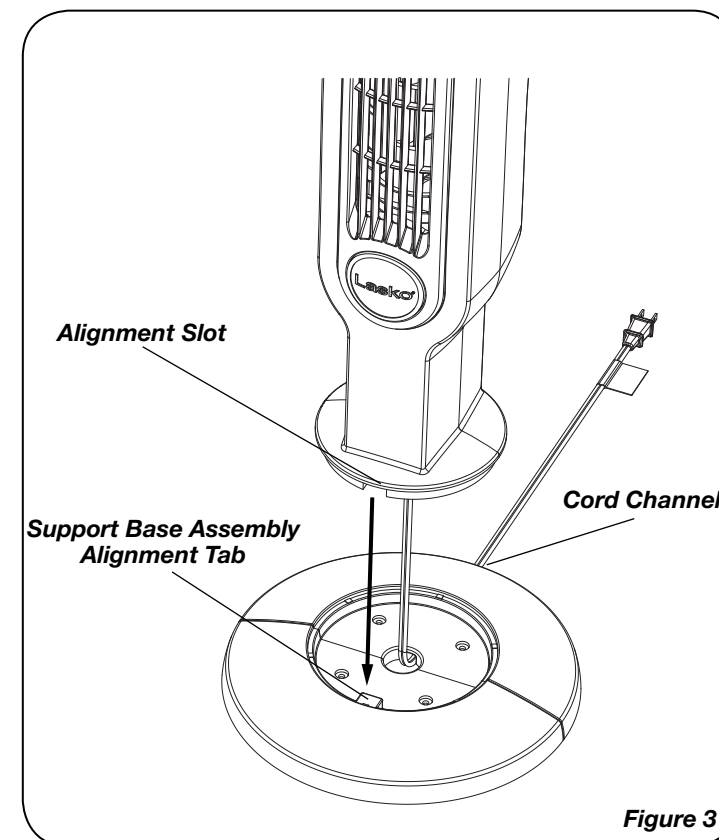

Figure 3
4. Align the **Support Base Assembly Alignment Tabs** with the alignment slots on the bottom of the fan, noting that the cord channel on the bottom of the support base should be towards the back of the Fan. (*Figure 3*)